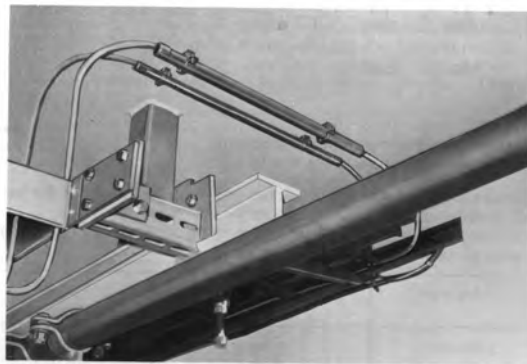

Figure C-1 Mechanical Protection of the LAN Cable
- In areas where the cable is subject to mechanical stress, install the cable in a heavy-gauge aluminum conduit or in a heavy-gauge plastic conduit (see Figure C-1)